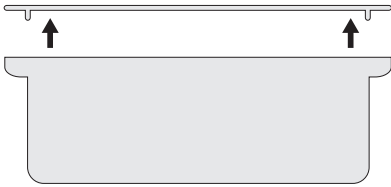

Fig. No. 4
7. Close EBU1 housing (see Fig. No. 4).